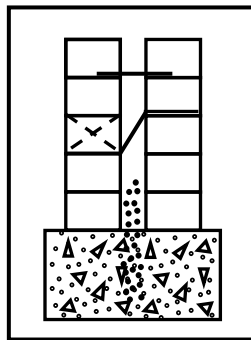

FIGURE 5.7
- 5.7 FIGURE 5.7 below shows the bottom part of a cavity wall.